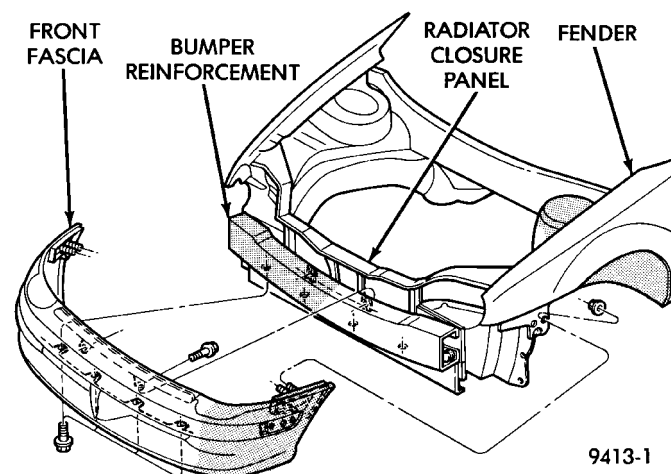

Fig. 1 Front Bumper Fascia
- (1) Remove nuts holding front bumper fascia bracket to bottom of fender forward of front wheels.
- (2) Remove screws holding front fascia to inner wheelhouse.
- (3) Remove bolts holding fascia to bumper reinforcement forward of radiator (Fig. 1).
- (4) Remove bolts holding fascia to bottom of bumper reinforcement.
- (5) Separate fascia from vehicle.
- (1) Position fascia on vehicle.
- (2) Install bolts holding fascia to bottom of bumper reinforcement.
- (3) Install bolts holding fascia to bumper reinforcement forward of radiator (Fig. 1).
- (4) Install screws holding front fascia to inner wheelhouse.
- (5) Install radiator grille, refer to Group 23, Body for proper procedures.